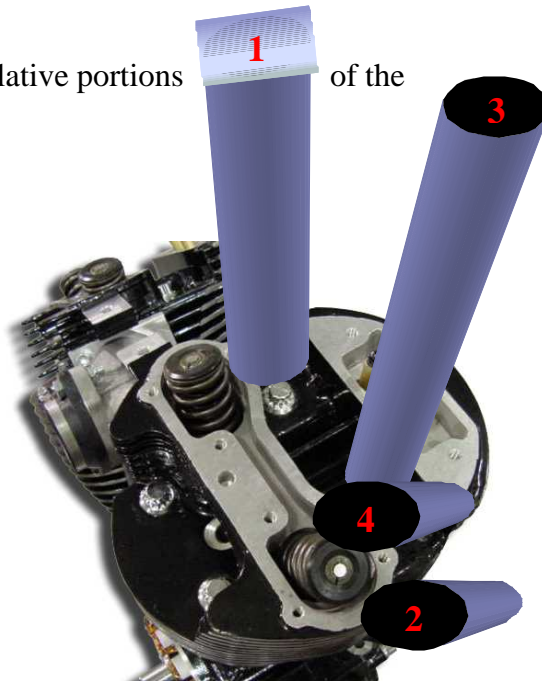

Figure 2
20. Place four (4) hollow dowel pins (PN01-061), two (2) in the top of each cylinder.
21.  Install one (1) cylinder gasket (PN01-268 Front and PN01-269 Rear) on each of the two cylinders, making certain that the “fire ring” is facing up.
24. Install two (2) each of the long (PN01-170) and two each of the short (PN01-171) head bolts on each of the two cylinder heads. Short bolts go in the low side of the head. Long in the high side.
25.  Torque to 5 ft lbs., then 14 ft lbs and 90° in the order shown in Figure 2 below.